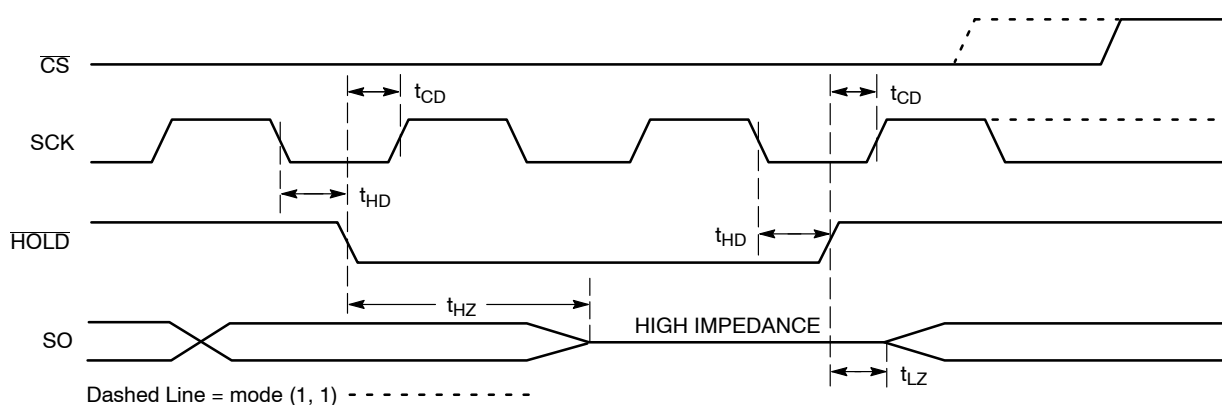

Figure 11. $\overline{\text{HOLD}}$ Timing
The $\overline{\text{HOLD}}$ input can be used to pause communication between host and CAV25512. To pause, $\overline{\text{HOLD}}$ must be taken low while SCK is low (Figure 11). During the hold condition the device must remain selected ($\overline{\text{CS}}$ low). During the pause, the data output pin (SO) is tri-stated (high impedance) and SI transitions are ignored. To resume communication, $\overline{\text{HOLD}}$ must be taken high while SCK is low.